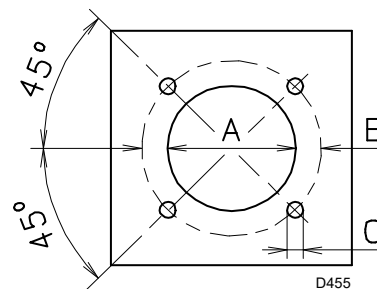

Fig. 8
► Drill the combustion chamber mounting plate as shown in Fig. 8. The position of the threaded holes can be marked using the burner head gasket supplied with the burner.